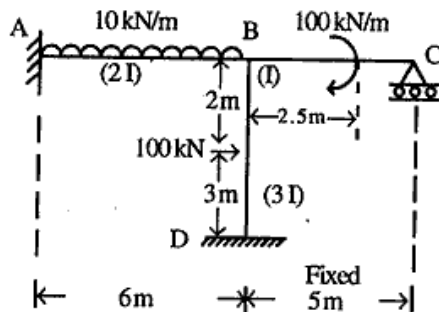

Figure 4
4. Using the displacement method, analyse the frame shown in figure 4.